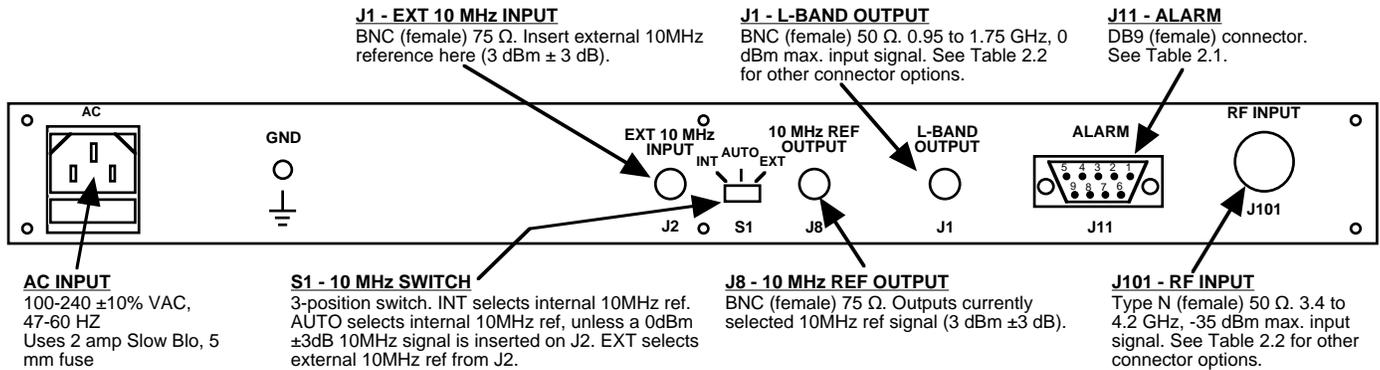

FIGURE 2.1 2116-34 Rear Panel I/O's
2.2 Rear Panel Input/Output Signals - Figure 2.1 shows the input and output connectors on the rear panel.
- 1.) Connect a -55 dBm to -35 dBm signal to RF INPUT, J101 (Figure 2.1).
- 5.) Select either INT (for internal 10MHz ref), AUTO (for internal 10MHz ref UNLESS a external 10MHz, 0 dBm signal is connected to J2), or EXT (for external 10MHz, 0 dBm ref that is inserted at J2) on rear panel switch S1 (Figure 2.1).
- 7.) Check that a 10MHz, 0 dBm \pm 3 dB signal is present at the 10 MHz REF OUTPUT (J8) (Figure 2.1).